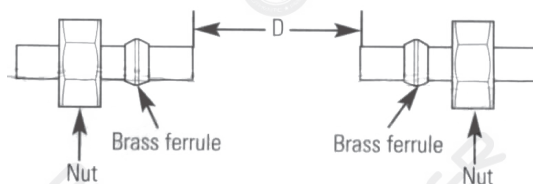

Fig.6
2. Next, slip the brass ferrule onto each pipe. **See Fig.6**